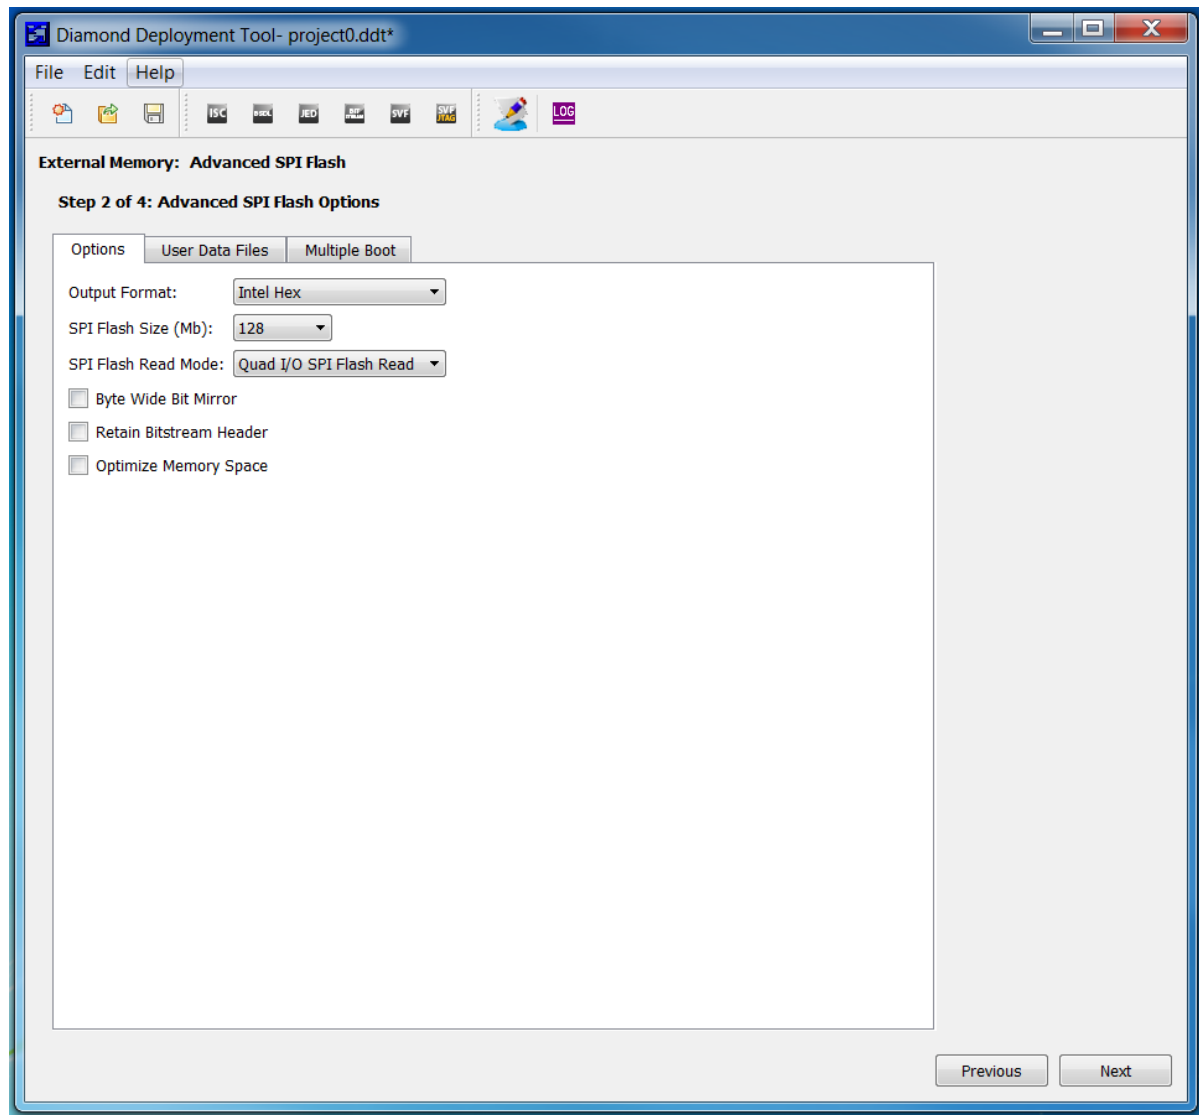

Figure 5.3. Step 2 of 4: Advance SPI Flash Options
3. In **Step 2 of 4: Advance SPI Flash Options**, shown in Figure 5.3, select the options below and click **Next**.